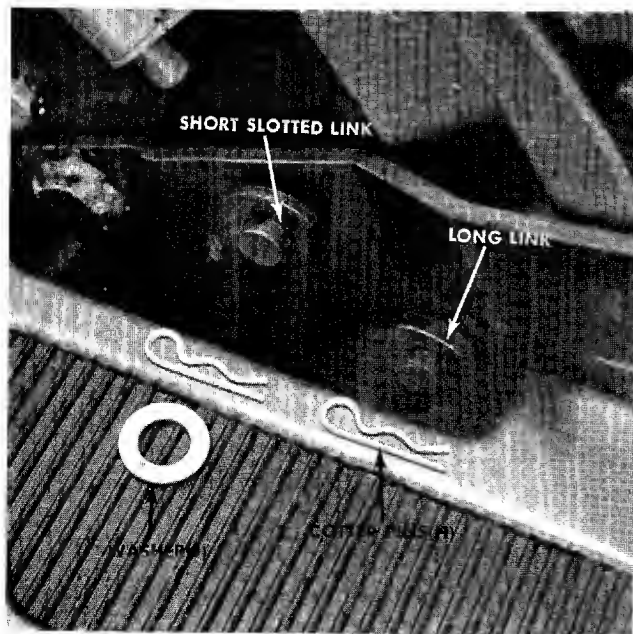

FIGURE 6. CENTER LINK ASSEMBLY
- d. Place the two center links through the hole in the foot rest and attach the short slotted link to the pin in the lift arm and attach the long link to the pin in the frame. See figure 6.
- e. Place washer (J) over the short slotted link and secure both links with cotter pins (H). See figure 6.